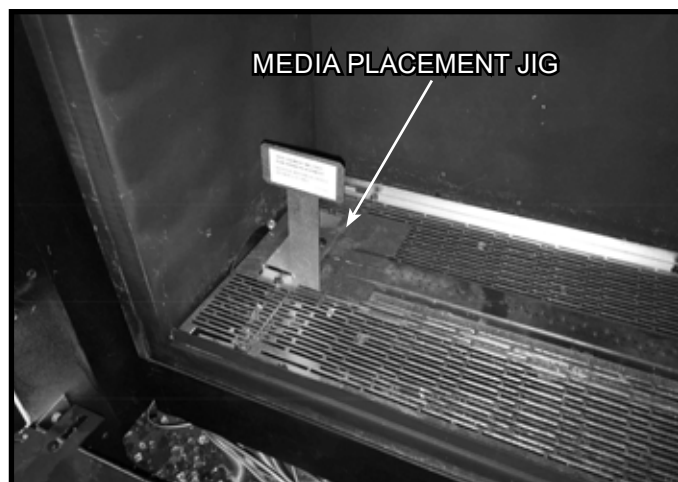

Figure 1 Media Placement Jig Location
2. The media placement jig, shown in Figure 1, **MUST** be used any time media are placed on the burner to ensure that there is no media in the burner lighting area. Verify that the media placement jig is correctly installed in place in the appliance. See Figure 1.